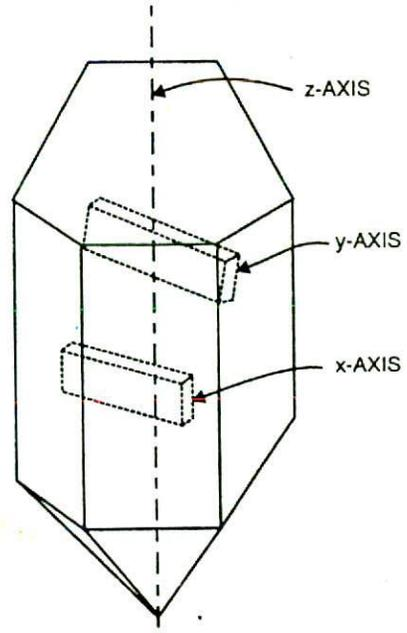

Fig. 16.19
**Quartz crystal.** Quartz crystals are generally used in crystal oscillators because of their great mechanical strength and simplicity of manufacture. The natural shape of quartz crystal is hexagonal as shown in Fig. 16.19. The three axes are shown: the *z-axis* is called the *optical axis*, the *x-axis* is called the *electrical axis* and *y-axis* is called the *mechanical axis*. Quartz crystal can be cut in different ways. Crystal cut perpendicular to the *x-axis* is called *x-cut crystal* whereas that cut perpendicular to *y-axis* is called *y-cut crystal*. The piezoelectric properties of a crystal depend upon its cut.